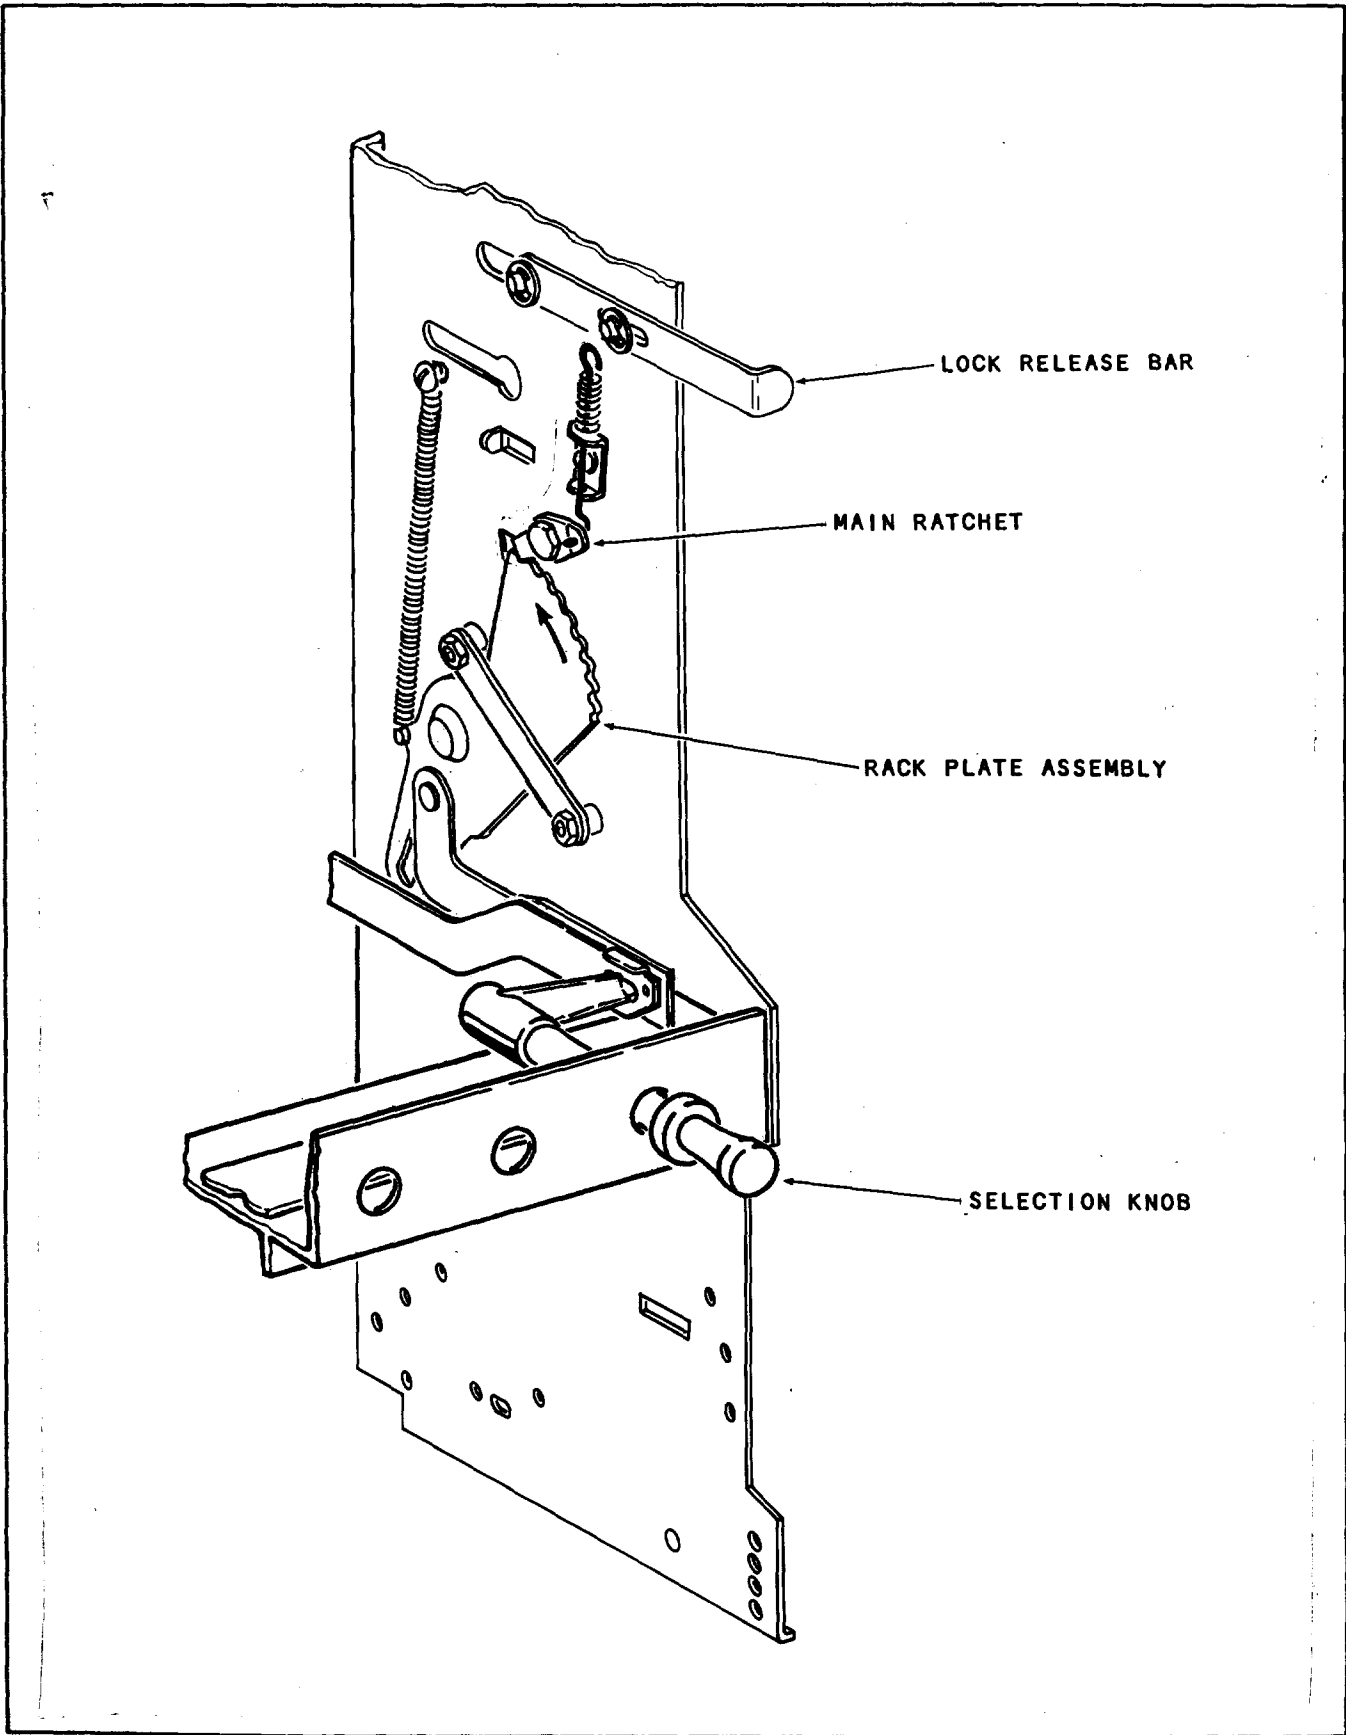

FIGURE 7
- B. Pull out on a Selection Knob until the ratchet on the sidewall is locked in the first tooth on the Rack Plate Assembly. See Figure 7.